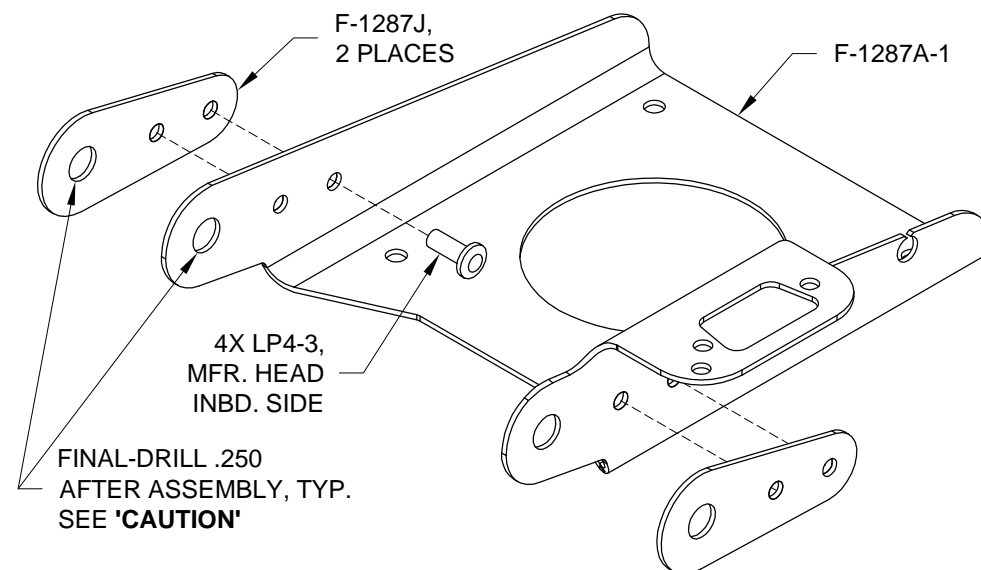

FIGURE 1: INSTALL DOUBLERS
Step 2: Final-Drill .250 and deburr the pivot holes in the Servo Tray and in the F-1287C Link per the call-outs in Figures 1 and 3.